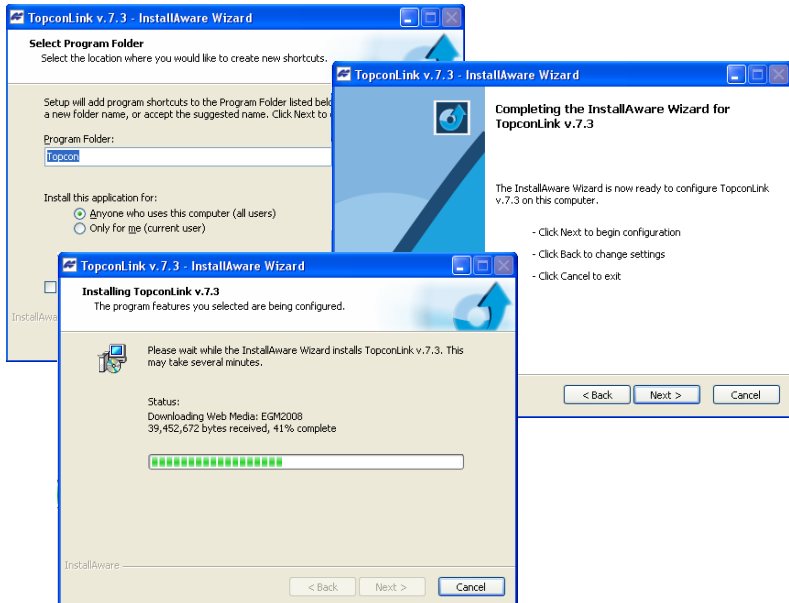

Figure 1-4. Select Program Folder and Installation Progress
4. If desired, type in a new folder in which to add program icons. For automatically creating Topcon Tools shortcut check the ‘*Create on Desktop*’ box. Then click **Next** (Figure 1-4).
5. Click **Next** to start the installation process (Figure 1-4)
6. Topcon Tools is installed on the computer (Figure 1-4)